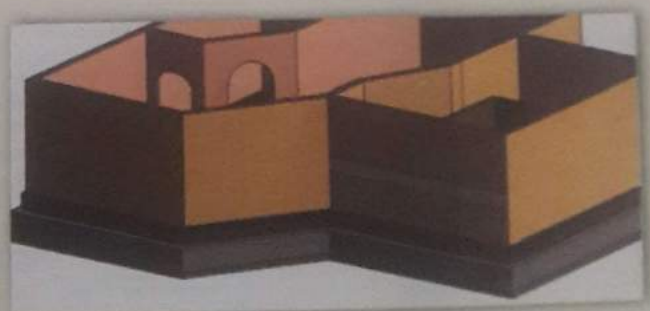

Figure 74: 3D View.
5. Check the model in 3D view (Figure 74).